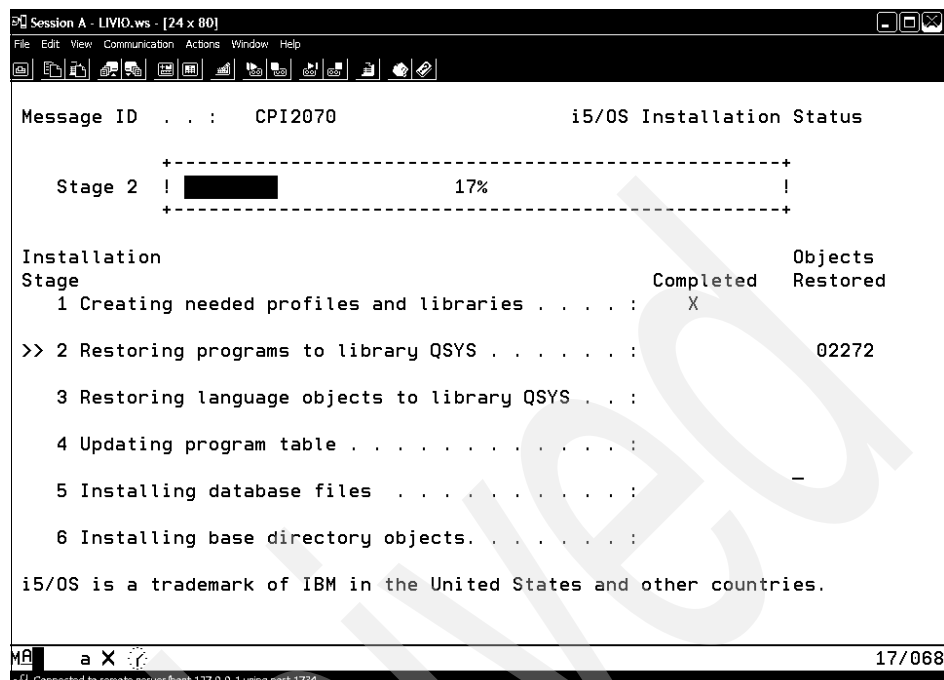

Figure 7-65 Installation status
7. Figure 7-65 on page 303 shows an example of a status display in the operator console during the installation process. No further action required. Note that the display will be blank for awhile between Installation Stage 4 and 5.